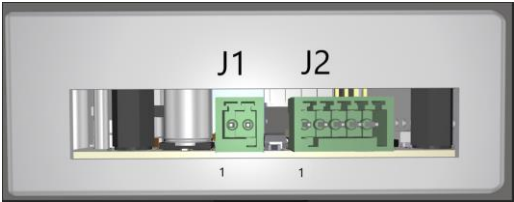

FIG. 1
- 1 Mains power connector (J1) (FIG. 1):
- 1 Communication connector on EIA RS-485 bus (J2) (FIG. 1):